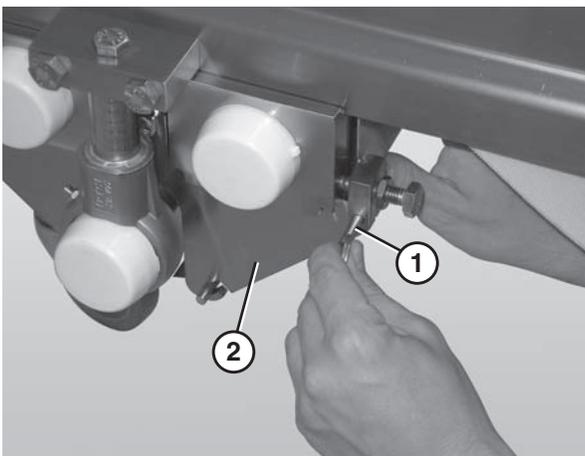

Figure 58
2. Remove the pull pins (Figure 58, item 1) from the center drive side plate (Figure 58, item 2).